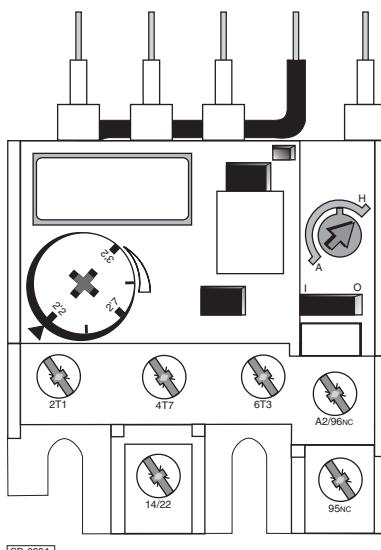

Figure 1e - Thermal Overload Trip Unit
- 28 The trip unit, shown in Figure 1e, clips on the side of the contactor and is secured in position with relay